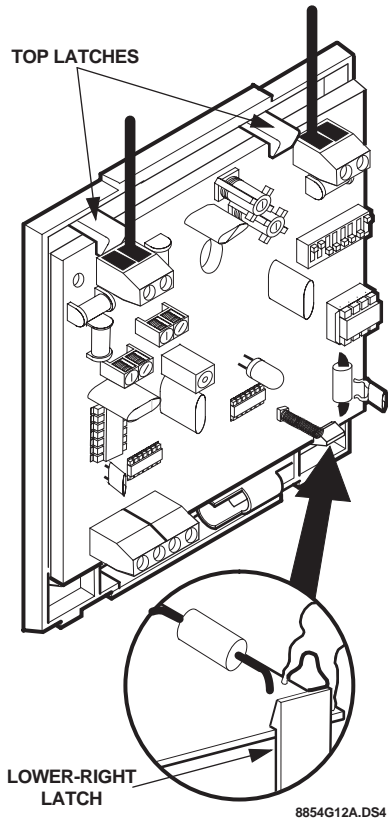

Figure 6. Latch Locations
- 2) Press down on the lower-right corner of the base until the latch releases the circuit board (see Figure 6).
- 3) Remove the circuit board from the base by gently lifting the circuit board by the terminal block until the top two latches release the board (see Figure 6). Place the circuit board in the repeater cover.